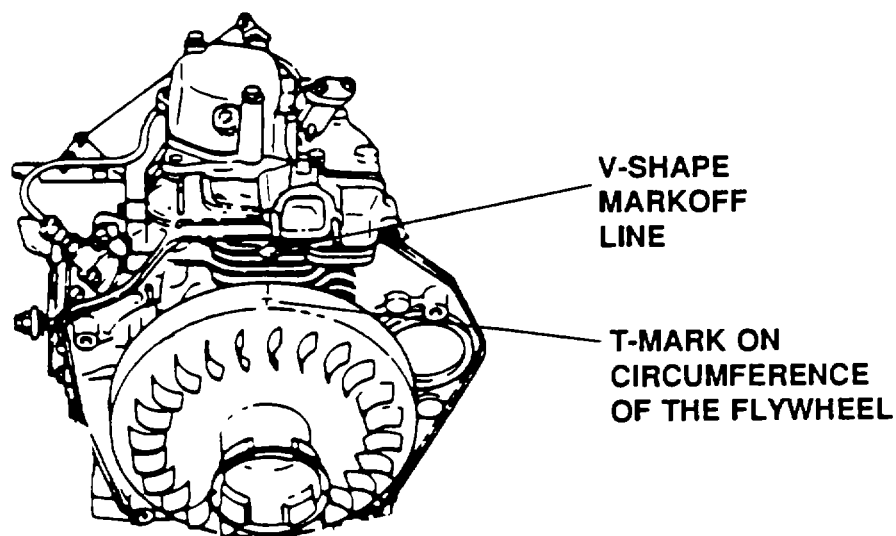

Figure 5-8. Alignment of Flywheel With Cylinder Block.
g. Adjustment. (Refer to Figure 5-8).